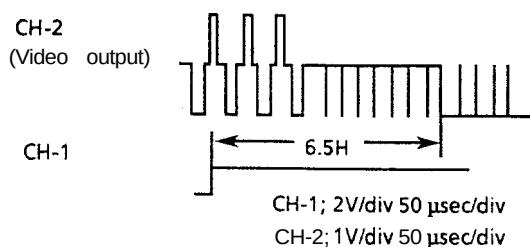

Figure 2-2.
3. Adjust R751(50Hz SW. P. ADJ.) so that the waveform on the oscilloscope screen be as shown in Figure 2-2.